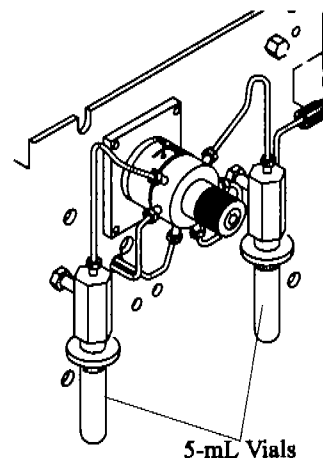

Figure 4.22. Standards valve
2. Select **Prime Std. 1 Loop** or **Prime Std. 2 Loop** and press [Enter]. The motor rotates in the direction of the standard selected, left for standard 1 and right for standard 2 (Figure 4.22). The valve stops when reaching the load ports, allowing the standard solution to prime the lines. It then returns to the sample ports.